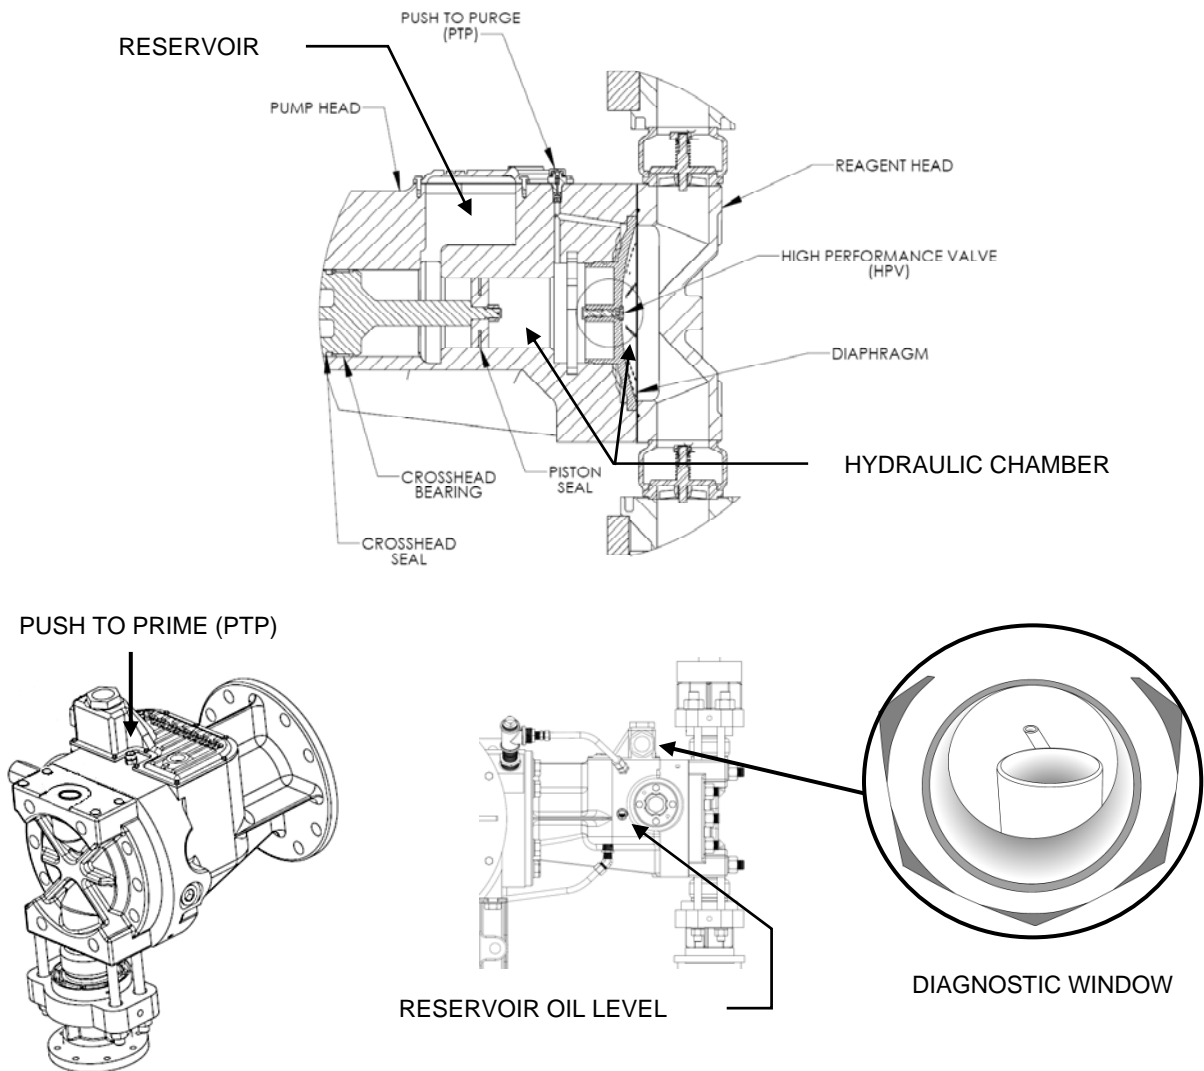

Figure 13
3. Allow the pump to operate for 30 minutes. During this time fully depress and hold the PTP valve button for several seconds every 5 minutes. After approximately 15 minutes oil should begin to flow out of the small diagnostic port (refer to Figure 13) but may appear foamy. By the end of the 30 minute period oil coming out of the diagnostic port should be clear of bubbles. Depending on the system discharge flow and pressure oil may spurt from the diagnostic port. This is normal.